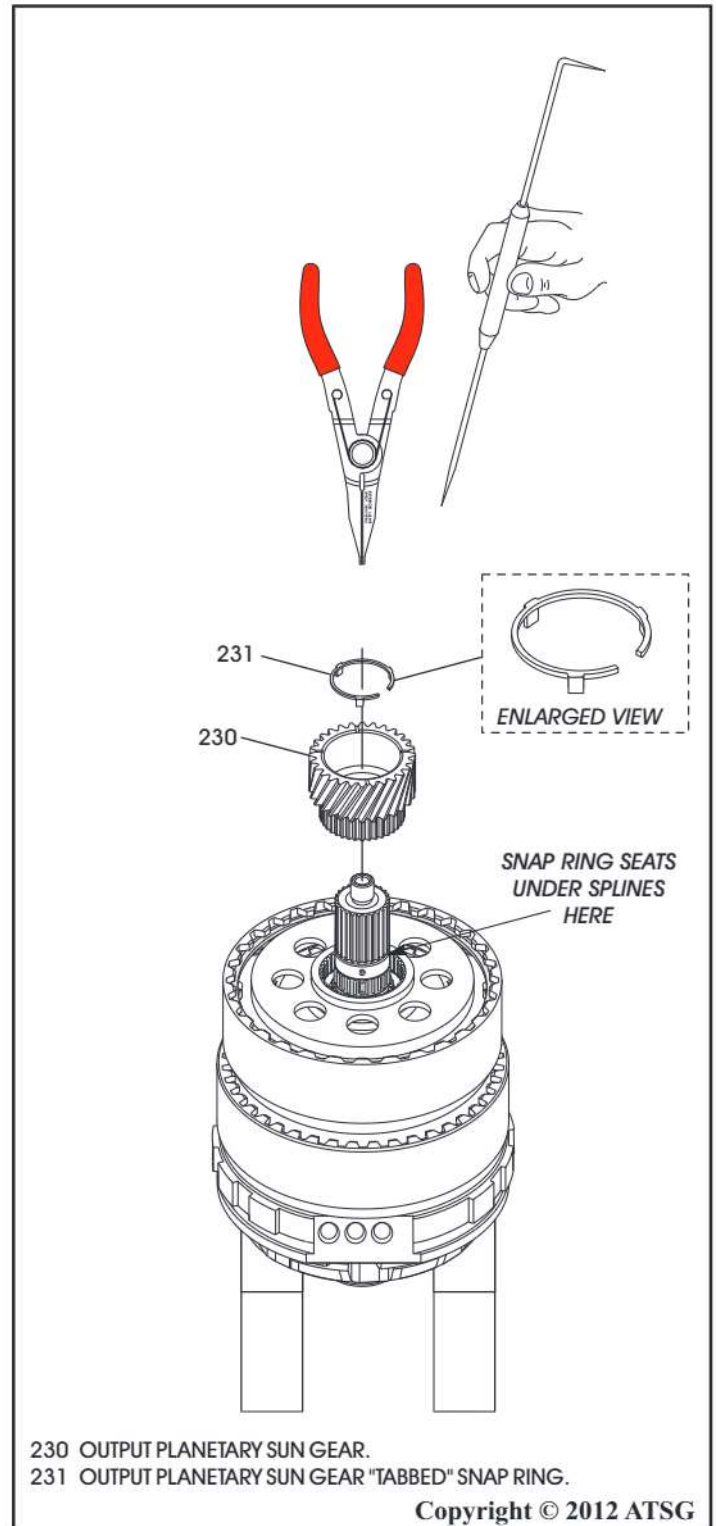

Figure 127
2. Turn the underdrive geartrain over and place on the blocks, as shown in Figure 127.
3. Remove the small "tabbed" snap ring from the underdrive center shaft that retains the output sun gear, as shown in Figure 127.